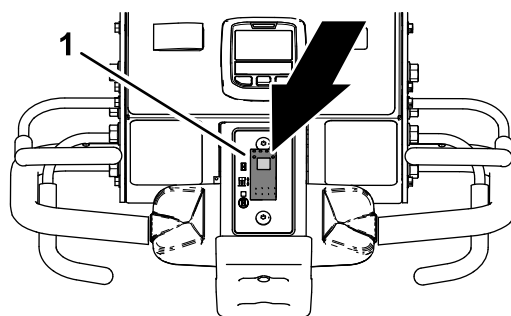

Figure 89
1. Press the top of the drop-control switch (Figure 89) to the DROP-DELAY position.